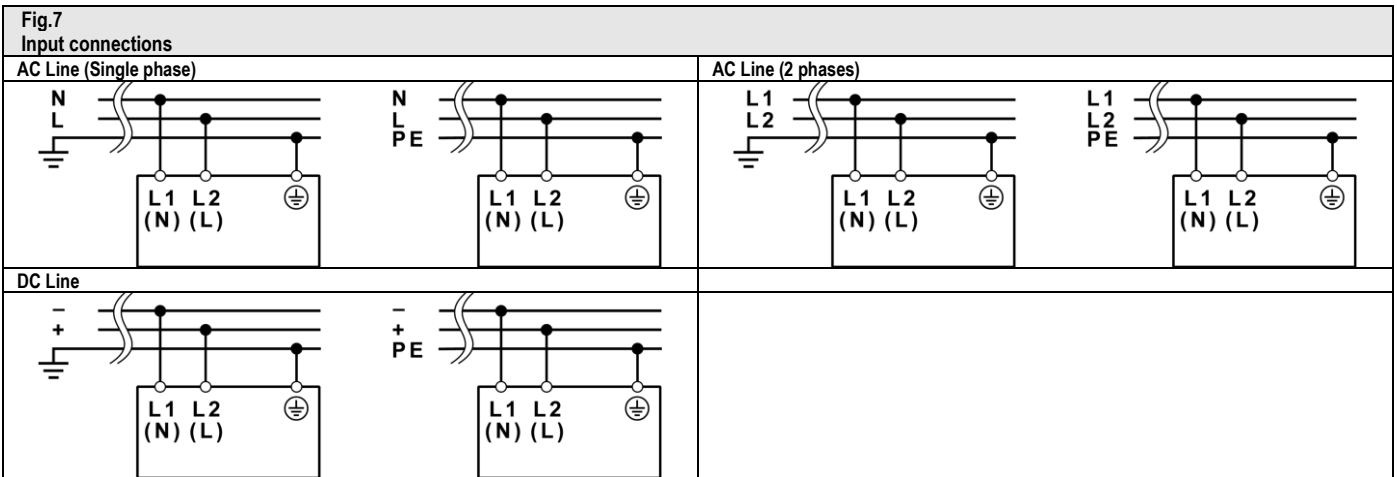

Fig.8 Environment
<p>2) Installation: use DIN-rails according to EN60715. Installation should be made vertically (see Fig.4). For better device stability fix the rail to the wall close to the point where the device is to be mounted. In order to guarantee sufficient convection, we recommend observing a minimum distance to other modules (see Fig.3). The device is provided with a thermal protection; a limited air flow can cause the thermal protection tripping. The SMPS automatically restarts after cooling. To get normal operation reduce the temperature of the air surrounding the power supply, increase the ventilation or reduce the load (see Fig.8).</p>
<p>9) Output protection: the device is protected against overload (OL) / short circuit (SC) / overvoltage (OV) / overtemperature (OT). OL and SC: are controlled by a hiccup mode auto-reset protection with the following behaviour: OL behaviour: Max. $OL = I_n \times 1.5$ with constant output voltage for $> 30\text{s}$. If the current is $\geq I_n \times 1.5$ the unit enters the OL protection and starts an ON/OFF cycle (hiccup mode). SC behaviour: the device supplies the indicated short circuit peak current for 400ms if the output current exceeds $I_n \times 1.5$ the device enters into a controlled ON/OFF cycles (hiccup mode). The output voltage drops to a voltage value depending on the impedance of the failed load circuit. Output OV circuit protection: the output is protected against potential OV due to internal malfunction or coming from the load for $U_{out} \geq U_{nom} \times 1.2 - 1.3$, depending on the model. OT protection: turns off the device if the internal temperature exceeds a safe limit. The device restarts automatically after cooling down. To recover to normal operation reduce air temperature surrounding the power supply, increase cooling or reduce load (see Fig.8).</p>